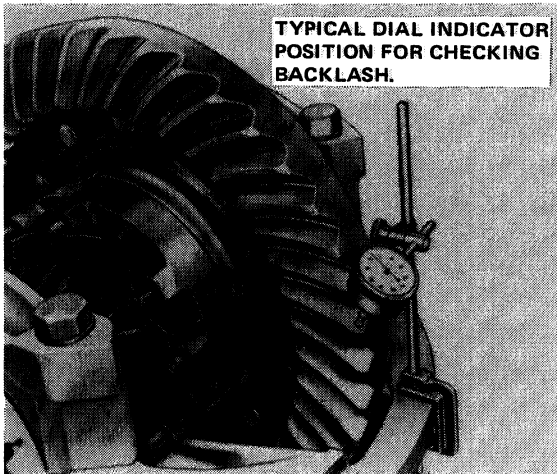

Figure 35. Checking Backlash
1. The backlash must be checked with a dial indicator. Position the dial indicator as shown in Figure 35.
3. With the dial indicator positioned as shown in Figure 35, prevent the pinion from turning and move the ring gear, noting reading on dial indicator.